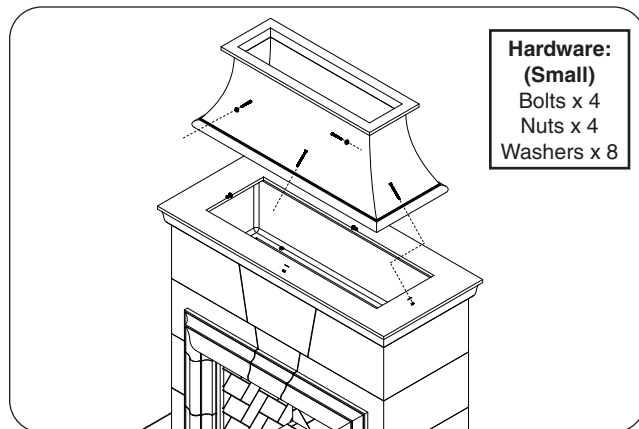

Fig. 25-3 Assemble chimney
2. Place the chimney piece on top of the top body piece. Carefully align the pilot holes, and repeat the hardware installation process (small hardware kits). See Fig. 25-3.